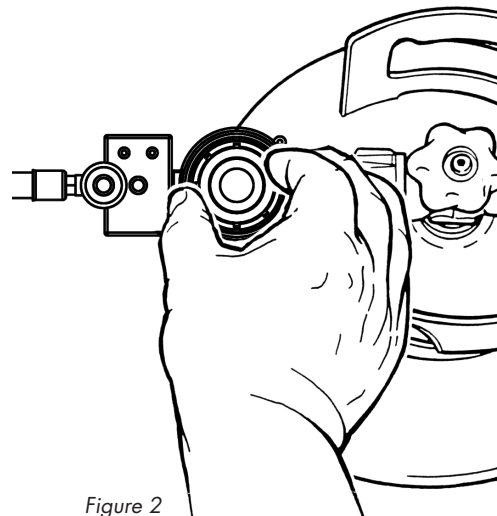

Figure 2
3. Insert a multipurpose lighter below the windscreen, to the edge of the burner, or use a long fireplace match placed above the burner. Turn the regulator control toward the **"ON"** position until ignition occurs (*Figure 2*). Turning the regulator control toward the **"ON"** direction increases the gas pressure to the burner and hence the flame size. **When lighting the appliance, if ignition does not occur in 3 to 5 seconds, turn the regulator and cylinder valve off. Wait 5 minutes for gas to disperse. Repeat procedure.**